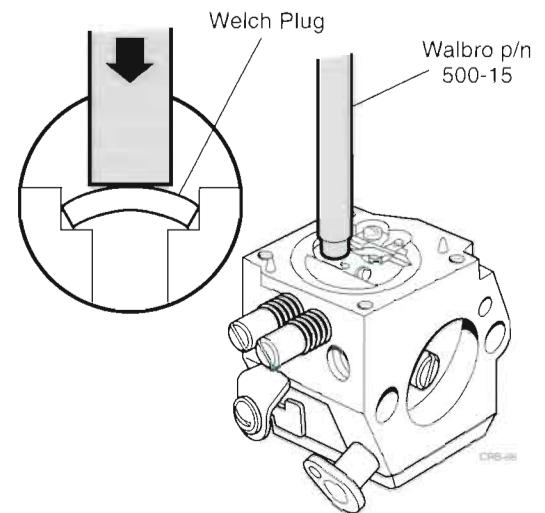

Figure 3.25 Welch Plug Installation
- Using Walbro driver p/n 500-15 and a small hammer, install a new welch plug p/n 88-28 as shown in Figure 3.25.